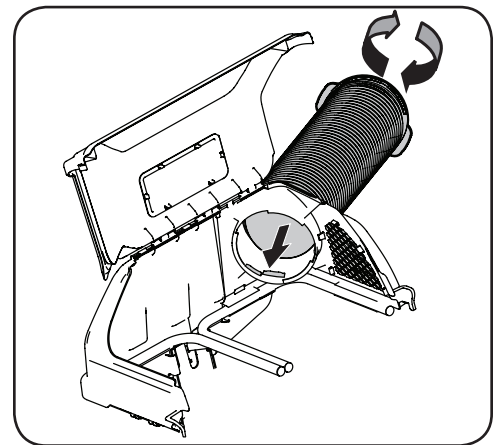

Figure 4-21
- Thread the upper end of the chute tube securely into the upper chute support. There are two tabs on the lower inside part of the upper chute support to allow for secure threading. See Figure 4-21.